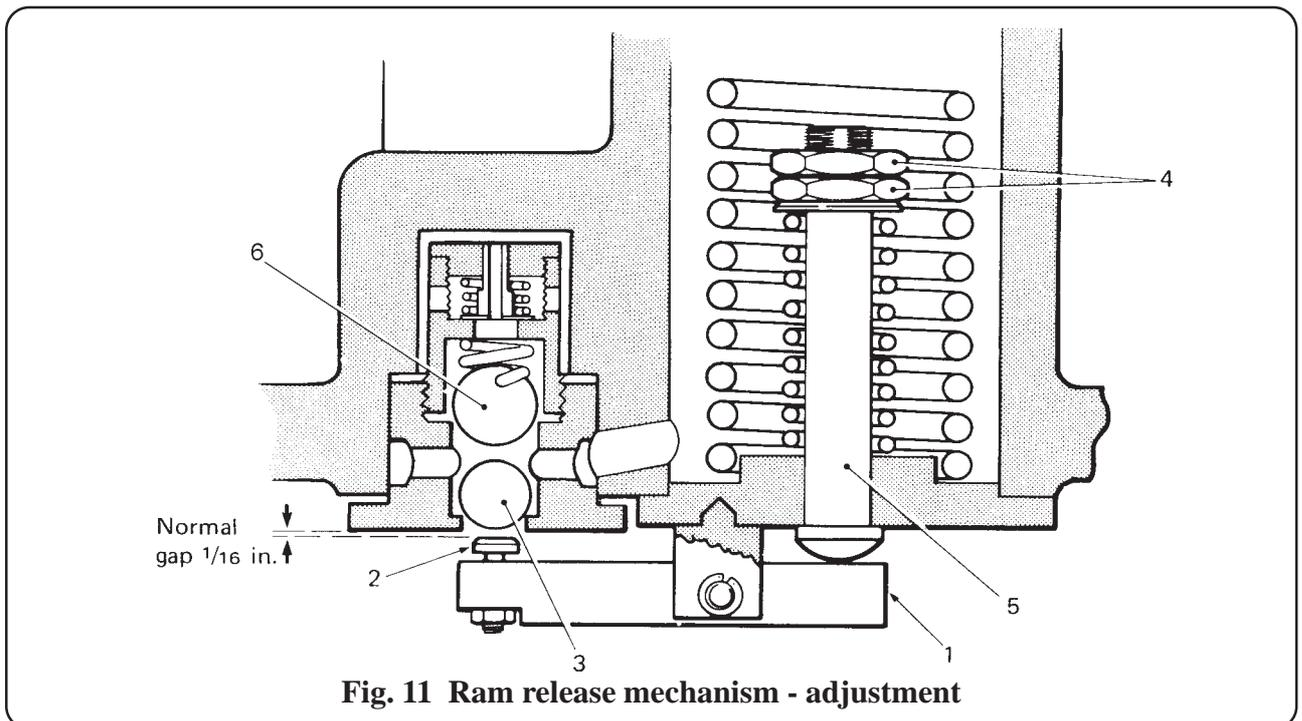

Fig. 11 Ram release mechanism - adjustment
- ii Examination of the ram release movement must now be carried out. Refer to Fig. 11. When the pump lever is depressed fully, this operates the ram release lever (1). The ram release lever pivots and the release screw (2) enters the ball valve and should lift the lower ball (3) at the end of lever travel. Before testing this movement, the pressure in the ball valve should be overcome by forcing the release lever into the ball valve after covering the cylinder with a cloth to avoid leakage of oil under pressure.
- iv Refer again to Fig. 11. Adjustment consists of unscrewing, in a clockwise direction, the two large lock nuts (4) on the end of the release plunger (5) to allow more movement of the ram release lever. This is in order to cause the ball of the ball valve to be lifted further and so release the table ram. (For a more detailed explanation of the hydraulic system, refer to section 4.53 and 4.54).